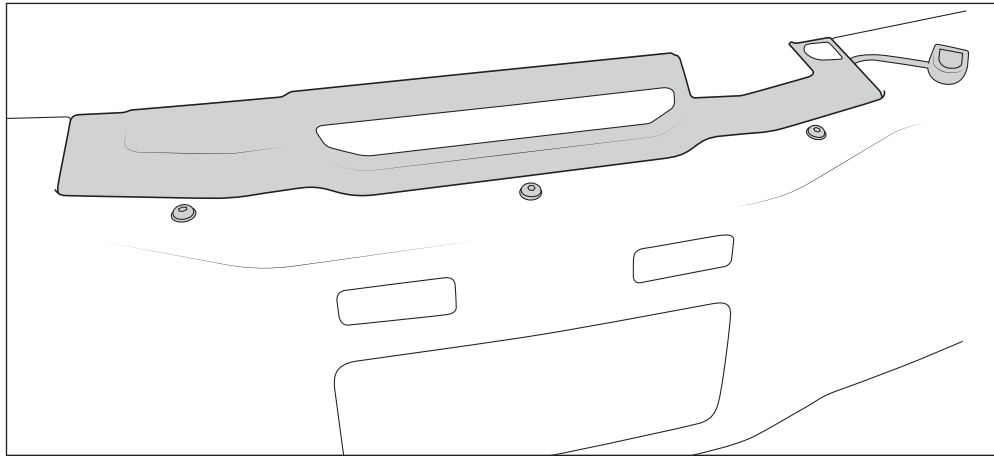

Figure 36
- Slide winch cover plate and plug into place underneath top face of bumper. Loosely attach front 3 mounting tabs using provided black M8 hardware (fig. 36).
- Slide winch delete plate into place underneath top face of bumper. Loosely attach front 3 mounting tabs using provided black M8 hardware (see fig. 36).